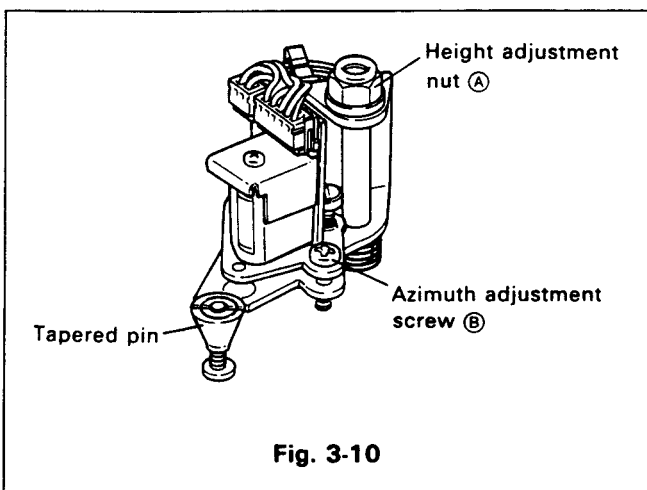

Fig. 3-10
If the height of the audio/control head is incorrect, a poor SN ratio will result when reproducing prerecorded tapes. Refer to Fig. 3-10.
- (1) Connect channel 1 of the oscilloscope to the AUDIO OUT jack on the rear panel.
- (2) Play back the MH-2 alignment tape and reproduce the 6 KHz audio signal.
- (3) While observing the audio output signal on the oscilloscope, adjust the height adjustment nut (A) shown in Fig. 3-10 to the maximum output level.
- (4) Next, adjust the azimuth adjustment screw (B) to the maximum output level.
- (1) Connect channel 1 of the oscilloscope to TP402 of the S/S/A/V circuit board, and channel 2 of the oscilloscope to TP610 of the S/S/A/V circuit board or TP901 of the jack terminal circuit board.
- (2) Play back the MH-2 alignment tape, set the tracking knob at the center position, and turn the tapered pin in Fig. 3-10 so that the maximum FM waveform output level is set. Play back the MH-2 alignment tape, and confirm that the maximum FM waveform output level is obtained with the tracking knob set at the center position.